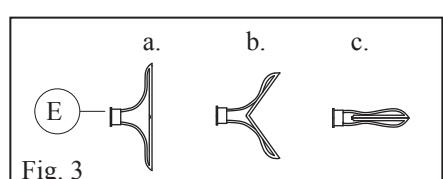

Fig. 3
4. Pinch drywall anchors (E) two wings together (Fig. 3), and insert it into the hole horizontally.